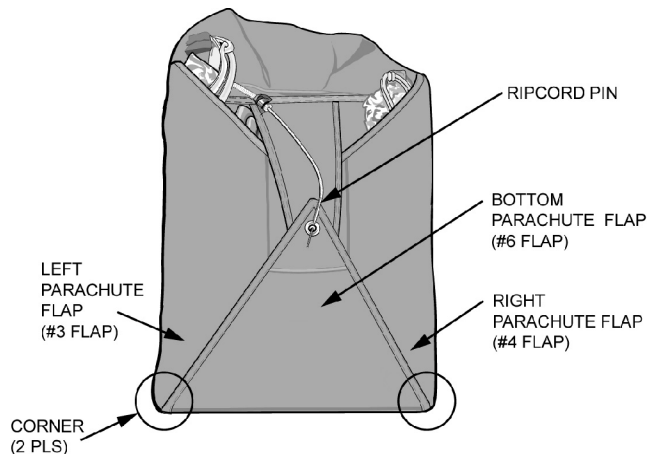

**Figure 15. Close Top Closing Flap (#5 Flap)**
z. Route pull-up cord from bottom of flap #5, up through grommet, and pull closing loop up. Remove temporary closing pin, and pull closing loop up through grommet. Secure with temporary closing pin (Figure 15).